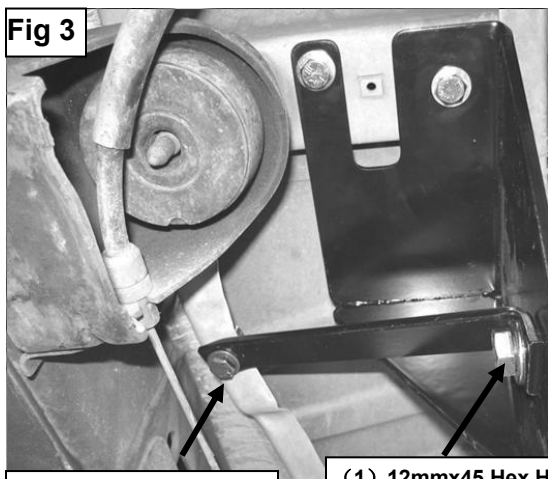

Fig 3
- On the rear side of the driver front body mount there is a factory hole in the floor panel located by the frame rail, loosely attach the straight end of the driver side front Support Bracket to this factory hole using the included (1) 10mm x 30mm Hex Head Bolt, (1) 10mm Lock Washer, (1) 10mm Hex Nut, and (2) 10mm Flat Washers. And attach the angle end of the support bracket to the front bracket with (1)12mmx45mm Hex bolt,(1)12mm lock washer,(2)12mm flat washers and (1)12mm Hex nut(**Figure 3**).